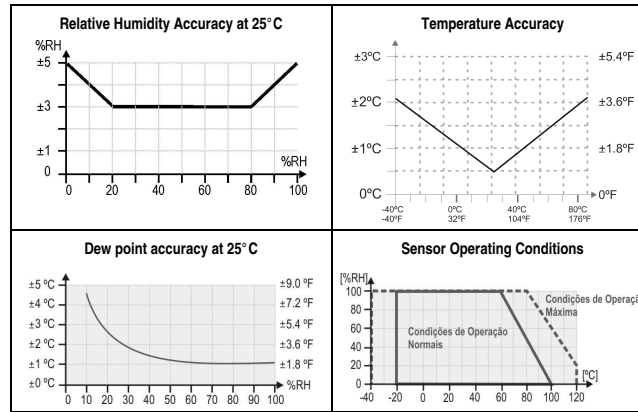

Figure 01- RH and Temperature accuracies.
- Accuracy:** Refer to Figure 01;
- Operating limits:** Sensor e probe (RHT-DM): See Figure 01;